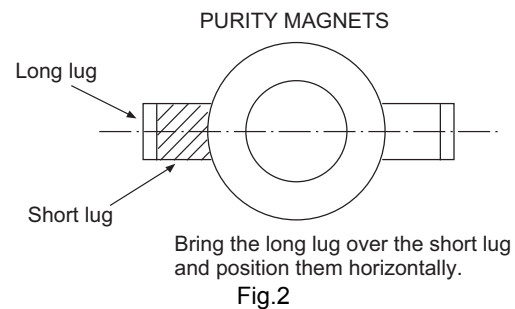

Fig.2
- (1) Demagnetize CRT with the demagnetizer.
- (2) Loosen the retainer screw of the deflection yoke.
- (3) Remove the wedges.
- (4) Input a green raster signal from the signal generator, and turn the screen to green raster.
- (5) Move the deflection yoke backward.
- (6) Bring the long lug of the purity magnets on the short lug and position them horizontally. (Fig.2)
- (1) Move the deflection yoke up and down and overlap the lines in the periphery. (Fig. 2)